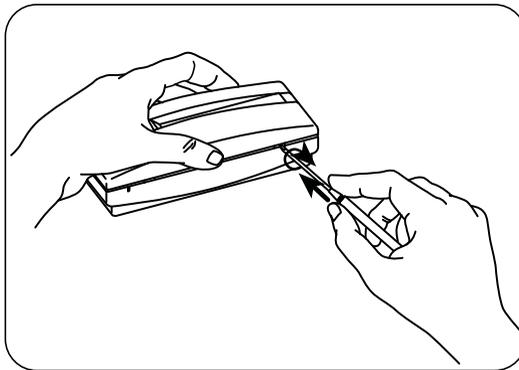

Figure 2: Opening the Cover
1. Open the cover by twisting a screwdriver in the slots on the bottom or top of the case (Figure 2).